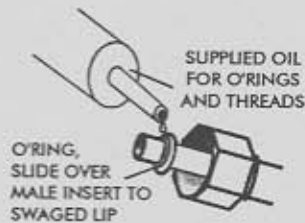
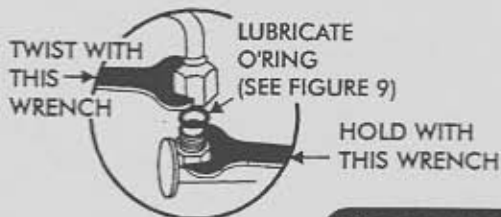

FIGURE 11a
FIGURE 11b
- ❑ LOCATE THE O-RING PACKAGE. THERE IS A SPECIFIC SIZE AND THICKNESS O-RING FOR EACH CONNECTION. THE SMALL WHITE TUBE IS A SPECIFIC OIL FOR O-RINGS AND THREADS. SEE FIGURE 11a. O-RINGS SHOULD NOT BE REUSED ONCE A FITTING IS TIGHTENED (DISCARD AND INSTALL NEW O-RINGS). DO NOT OVER TIGHTEN. ALWAYS USE TWO (2) WRENCHES TO PREVENT TWISTING FITTINGS ON HARDLINES. FIGURE 11b.
- LUBRICATE THE O'RINGS AND FITTINGS (SEE FIGURE 11a, PG.3) AND ROUTE THE LINE AS SHOWN ON THE PASSENGER SIDE. SEE FIGURE 12.